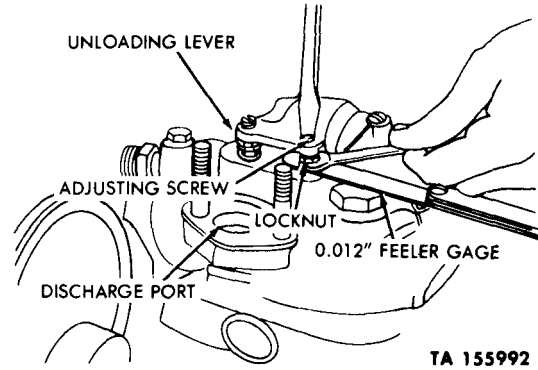

Figure 2-190. Checking and adjusting air compressor unloader.
*(1) Unloader Valve Clearance Adjustment.*
*(a)* Remove unloader-valve cover (fig. 2-190) from compressor cylinder head. Remove cover gasket from cylinder head and discard it.
*(b)* Using feeler gage (fig. 2-190), check clearance of unloader valves; it should be 0.010 to 0.015-inch. If clearance is not within these limits, adjust valves as described in *(c)* below. If clearance is correct, proceed as in *(d)* below.
*(c)* Loosen locknut (fig. 2-190) on both adjusting screws, turn screws until a 0.12-inch clearance is obtained, and tighten locknuts.